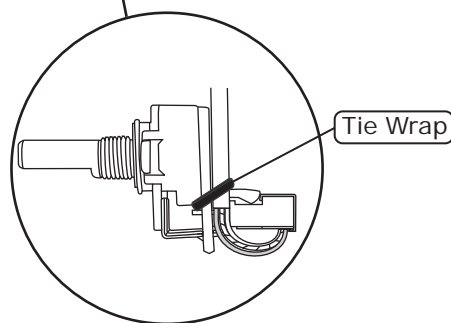

Figure 3a
2. Tie wrap the wires to the rotary pots as shown in Figure 3a, below.